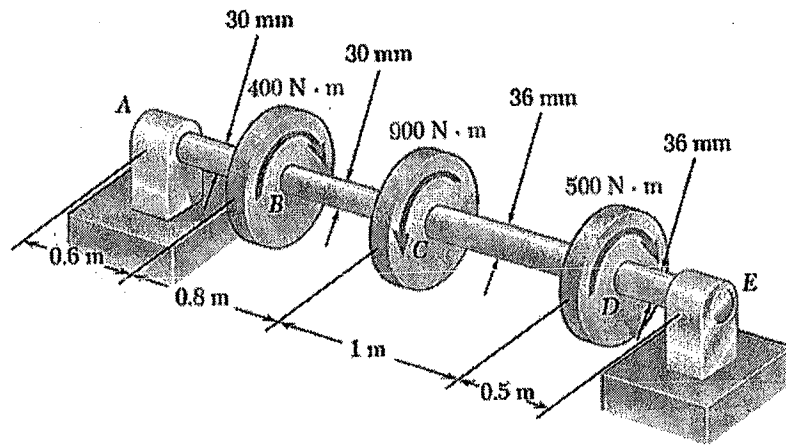

Figure Q2(a)
- a. The torques shown in Figure Q2(a) are exerted on pulleys *B*, *C*, and *D*. If the entire shaft is made of aluminum ($G = 27 \text{ GPa}$), determine the angle of twist between *C* and *B*.